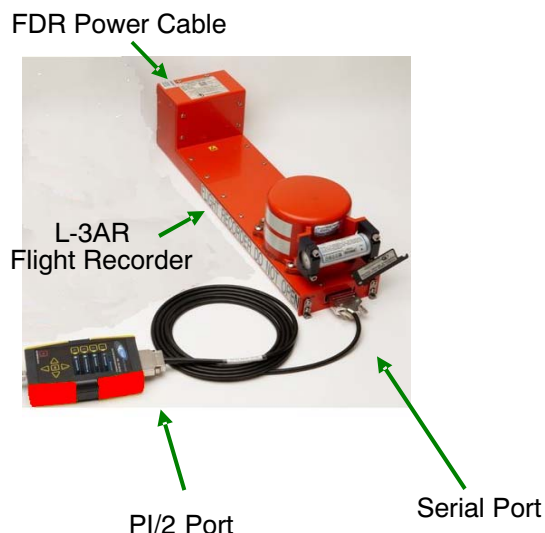
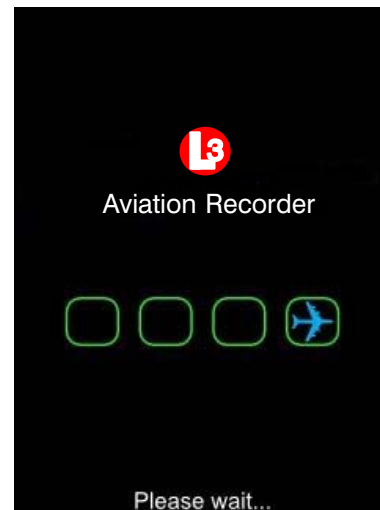

Figure 1.1 Connect PI/2 to Flight Recorder
Figure 1.2 PI/2 Loading
1. To begin, attach the corresponding black serial cable clearly labelled with the correct FDR type, from the PI/2 serial port to the front of the Flight Recorder serial port as shown in Figure 1.1. Make sure you have a power supply going to the L-3AR Flight Recorder. The PI/2 will boot up and load the shortcuts for downloading (see Figure 1.2).